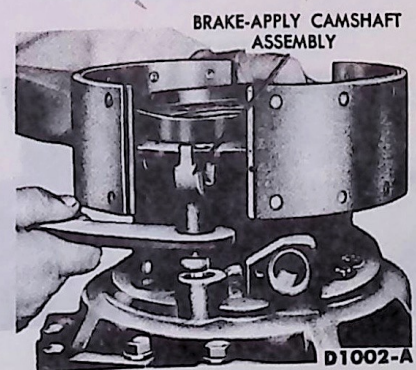

FIG. 63 Parking Brake Installation
36. Install the brake support plate assembly on the bearing retainer and at the same time, install the brake apply lever and cam (Fig. 63). Tighten the bolts to 67-80 ft.-lbs torque.